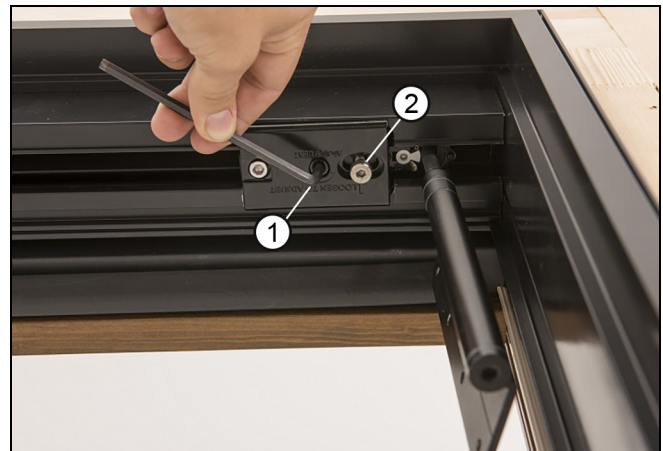

Figure 47
5. Place the hinge in the middle of its adjustment range by rotating the center cam, then fully tighten the bolt closes to the jamb. See Figure 47.